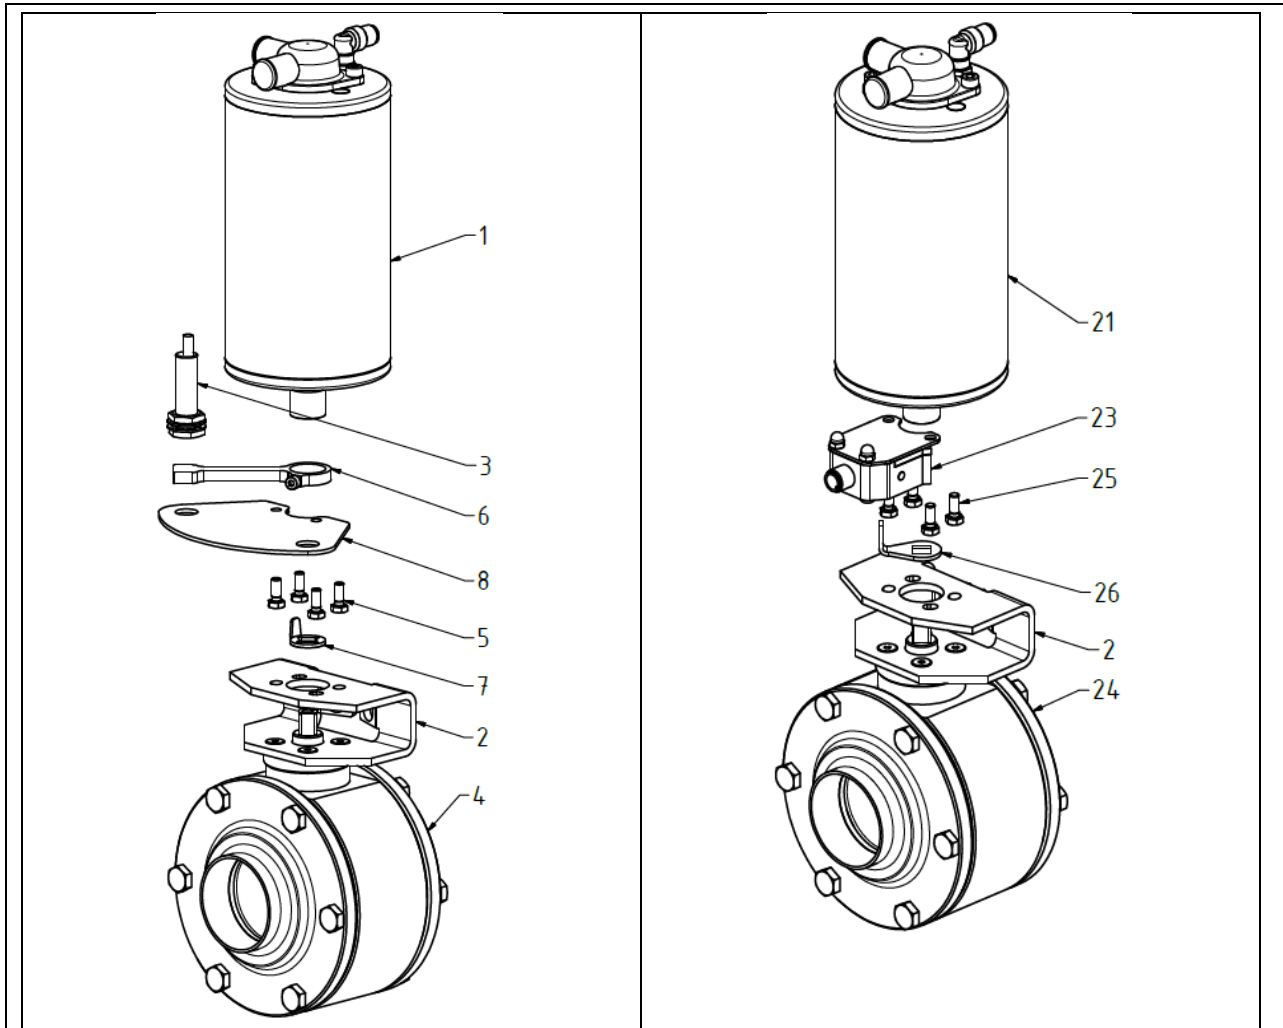

Fig. 6-10: Pneum. actuator with alternative feedback
- Install the proximity switches (item 26C+O) for position monitoring.
- When correctly installed, the position indicator (item 23p) points to the left and the pin (item 23c) sits opposite the proximity switch used to monitor the “closed” position (item 26C). After opening, the position indicator (item 23p) points downwards and the pin (item 23o) sits opposite the initiator for monitoring the “open” position (item 26O).
- Release the hexagonal bolts (Fig. 6-10, item 5) and pull the pneumatic actuator (Fig. 6-10, item 1) upwards and off.
- Fasten the holding plate (Fig. 6-10, item 8) to the holding bracket (Fig. 6-10, item 2) and pneumatic actuator (Fig. 6-10, item 1) using the hexagonal bolts (Fig. 6-10, item 5).
- When doing this, guide the signal contact arm (Fig. 6-10, item 6) over the actuator shaft of the actuator and clamp it tight.
- Fasten the single proximity switches (Fig. 6-10, item 3) in the holes in the holding plate (Fig. 6-10, item 8).
- Ensure that the end of the control cam (Fig. 6-10, item 6) is exactly under the respective proximity switch when set to “open” or “closed”. Take note of the direction of rotation of the actuator when doing this (see section “3.3.2 Ball Valve with Pneumatic Actuator”). The clearance between the signal contact arm and the face of the proximity switch should not exceed 2 to 3 mm.
- Replace the position indicator (Fig. 6-10, item 7) with the switch cam (Fig. 6-10, item 26).
- Fasten the holding plate with double proximity switch (Fig. 6-10, item 23) to the holding bracket (Fig. 6-10, item 2) and pneumatic actuator (Fig. 6-10, item 1) using the hexagonal bolts (Fig. 6-10, item 5).
- Ensure that the contact vane of the switch cam (Fig. 6-10, item 26) is exactly in front of the respective proximity switch when set to “open” or “closed”. Take note of the direction of rotation of the actuator when doing this (see section “3.3.2 Ball Valve with Pneumatic Actuator”). The clearance between the contact vane and the front face of the initiator should not exceed 1 to 2 mm. The switch cam must not touch the proximity switch in any position.